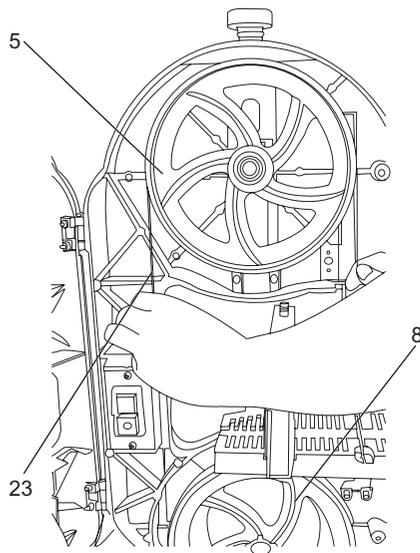

Fig. 33
- > Remove the blade (23) from the upper blade pulley (5) and lower blade pulley (8), Then take out through the slot in the table (20). (Fig. 33)
- > Fit the new blade (23), aligned centrally on the upper blade pulley (5) and lower blade pulley (8). The teeth of the blade (23) must point down towards the table. (Fig. 33)